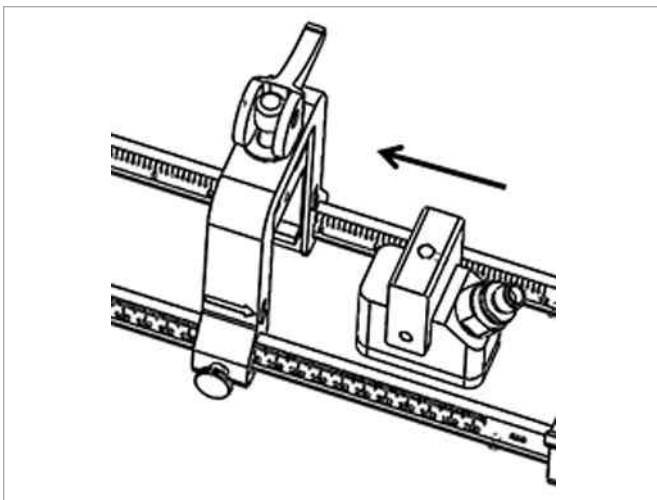

Figure 21: Inserting the transducer
6. Slide a transducer, which is already locked into its transducer holder, into one of the clamp-on fixture's clamp holders until the plunger from the top of the transducer holder snaps into its position on the bottom of the clamp holder (see *Figure 21* below).